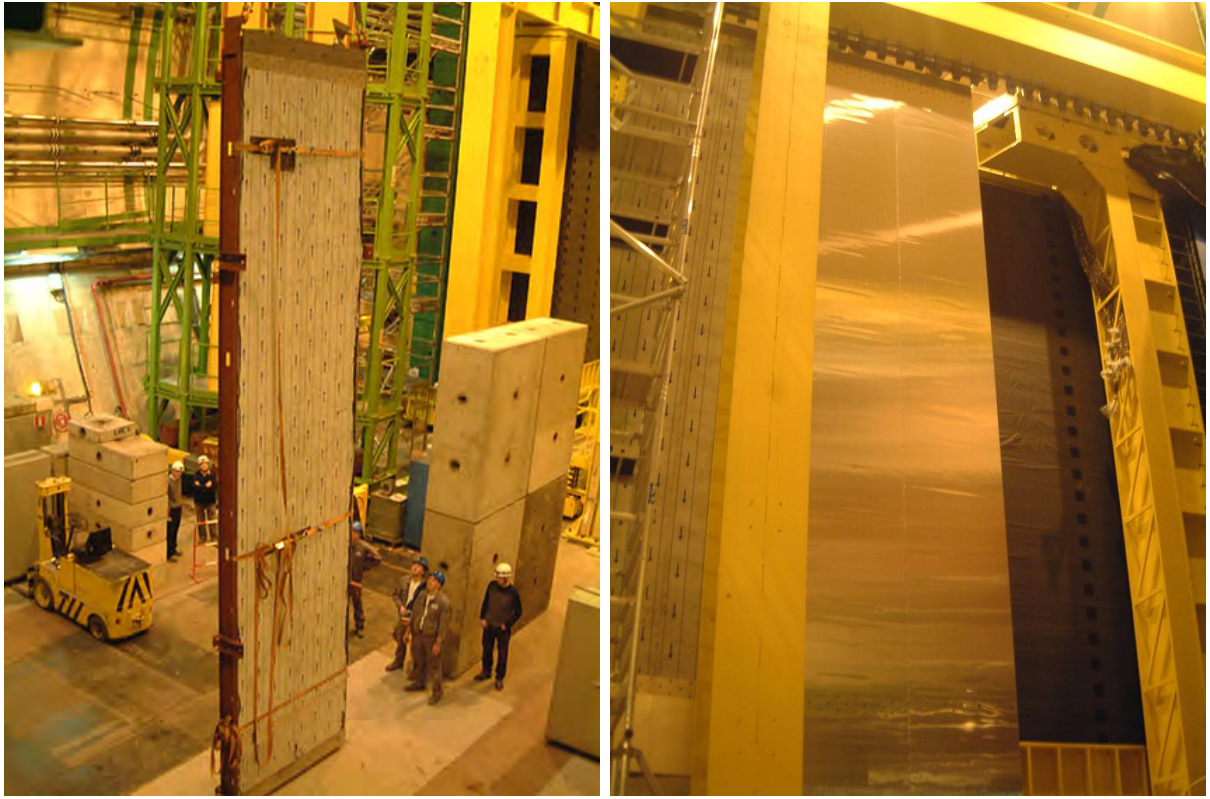
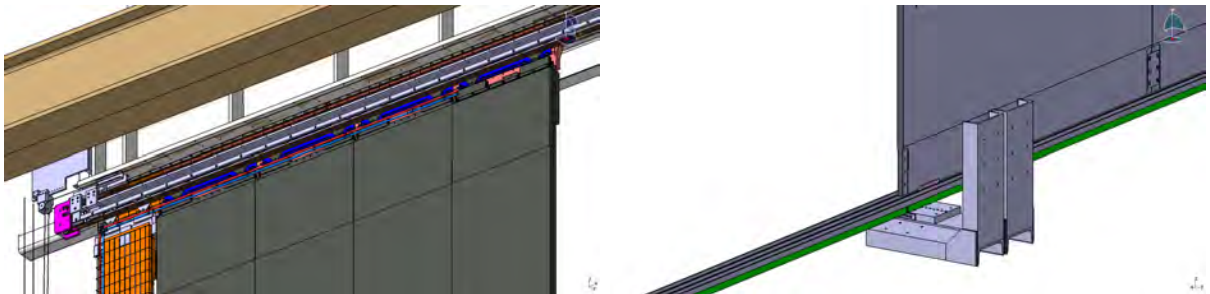

Figure 35: A lead panel on its transport cradle before its installation (left), and on its support after installation (right) beginning of 2006.
Figure 37: Top (left) and bottom (right) supports of SPD/Lead/PS detectors.
**Lead absorber** The lead absorber is made of four panels, two on each detector side. The dimensions of one panel are  $\sim 8.2\text{ m} \times 2\text{ m} \times 16\text{ mm}$ , with a weight of about 2.5 tons. Two panels are screwed together to form a wall. As the supermodules, they are hanged by the top on a rail and guided at the bottom by a rail (Fig. 37). Its moving system is rather simple (a belt with a crank). The panels have been installed one by one on the top rail (Fig. 35), from A-side, by using a transport cradle and assembled in position. The reverse procedure will have to be used to dismount them. Panels will have to be unscrewed and removed one by one with the crane and put on the transport cradles. A nacelle will be needed to attach the panels to the crane and ECAL/HCAL A-side should be closed. C-side can be removed only after dismantling of the beam pipe. Two transport cradles were built and are stored at the P8 surface (Fig. 38 right). Manipulation of the lead panels without their transport cradle is difficult and a storage will have to be found or two additional cradles will have to be built.
Last but not least the hanging system, top and bottom rails (Fig. 37), will have to be dismantled. For the top part, the PS passerelle and a nacelle will be needed.